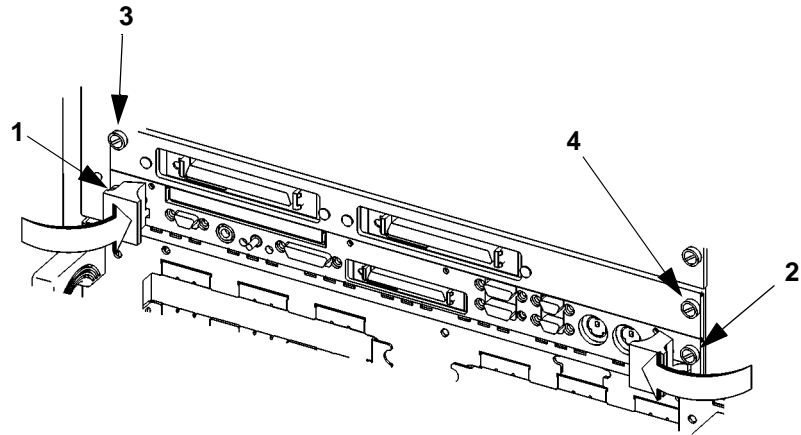

Figure 3-2 **Board Computer Captive Screws**
- 3 Engage and tighten the captive screws (labeled 1 and 2 in Figure 3-2) at each end of the board computer. These screws hold the computer in the VME card cage.
- 2** Engage all captive screws (labeled 1 and 2, 3 and 4, in Figure 3-2) before tightening each screw of the Model 744 and the extension panel(s).